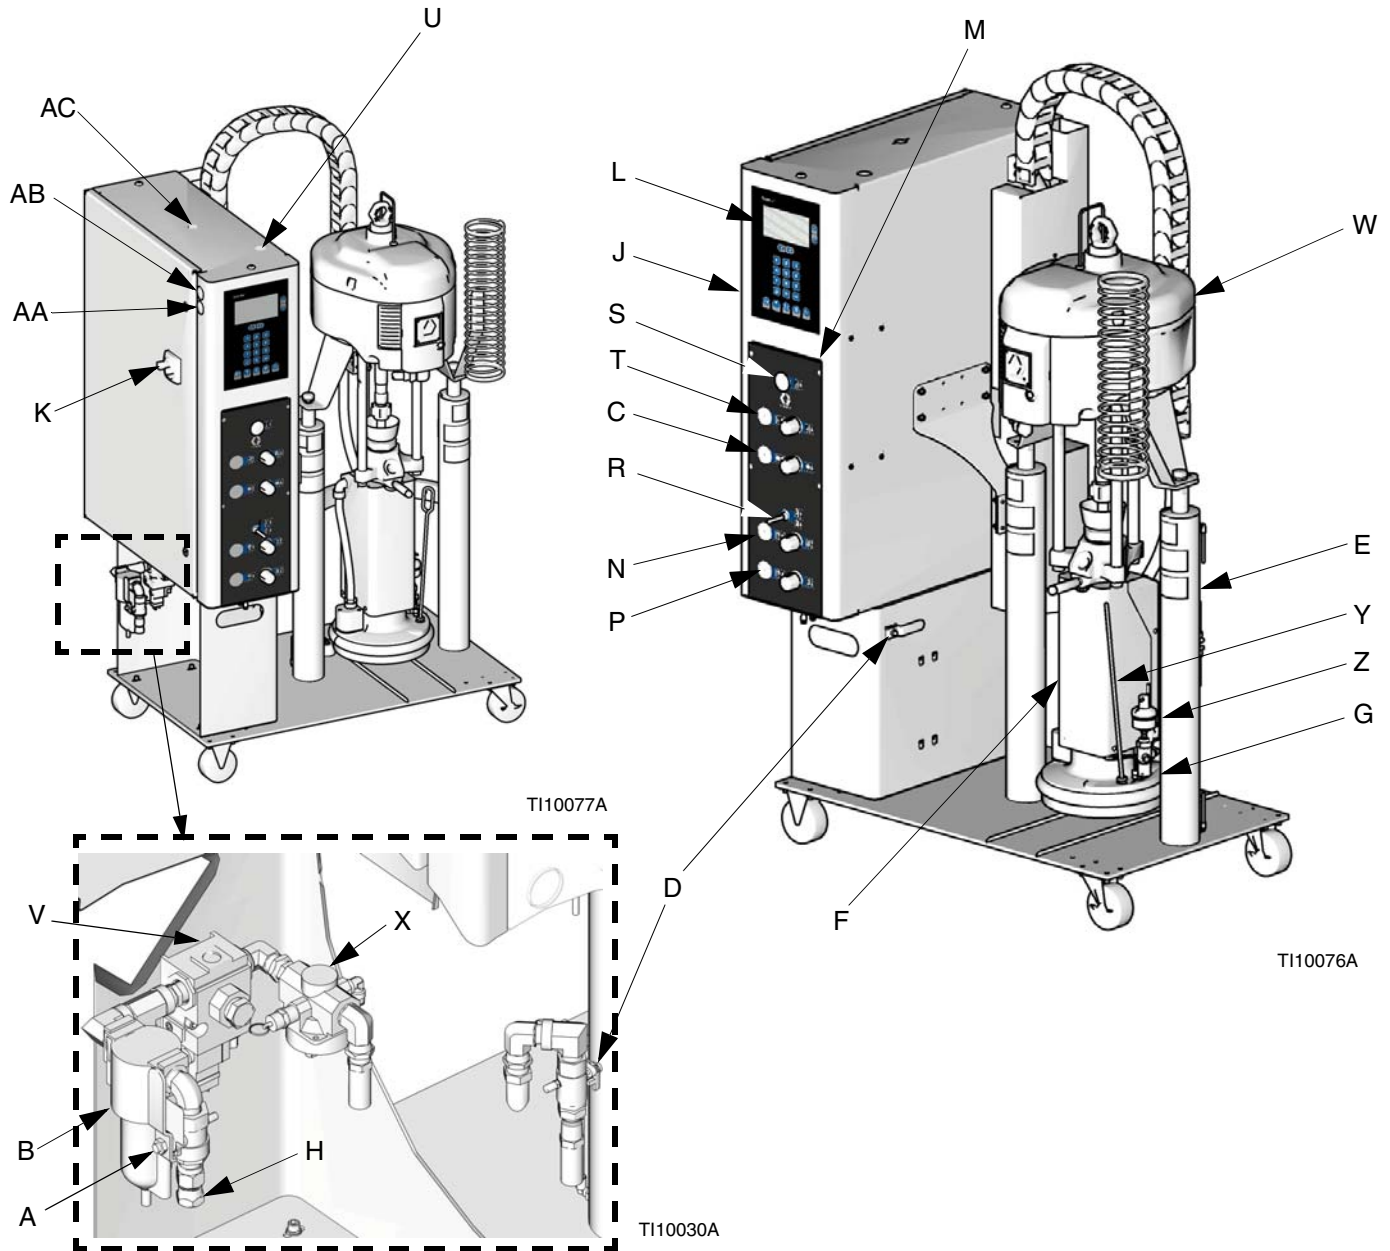

FIG. 1: Component Identification
Before installing the system you should be familiar with all the Therm-O-Flow system components. See FIG. 1. Contact your Graco distributor for help in designing a system to suit your particular needs.
The following components are included with the unit. See FIG. 1.
The Pneumatic Control Panel (M) includes the following. See FIG. 1.
- Platen Blow-off Valve (S) directs air to the underside of the platen when depressed.
- Blow-off Air Regulator (T) controls the air pressure to the platen blow-off valve.
- Air Motor Air Regulator (C) controls the pump outlet pressure by adjusting the air pressure to the air motor.
- Ram Up/Down Lever (R) changes the direction of the ram.
5. Connect a 1/2 in. (13 mm) air line from an air source to the system air inlet, see FIG. 1, page 9, letter (H) capable of delivering a minimum of 15 cfm (0.4 m³/m) at 100 psi (0.7 MPa, 7.0 bar). **Do not use quick disconnects.**